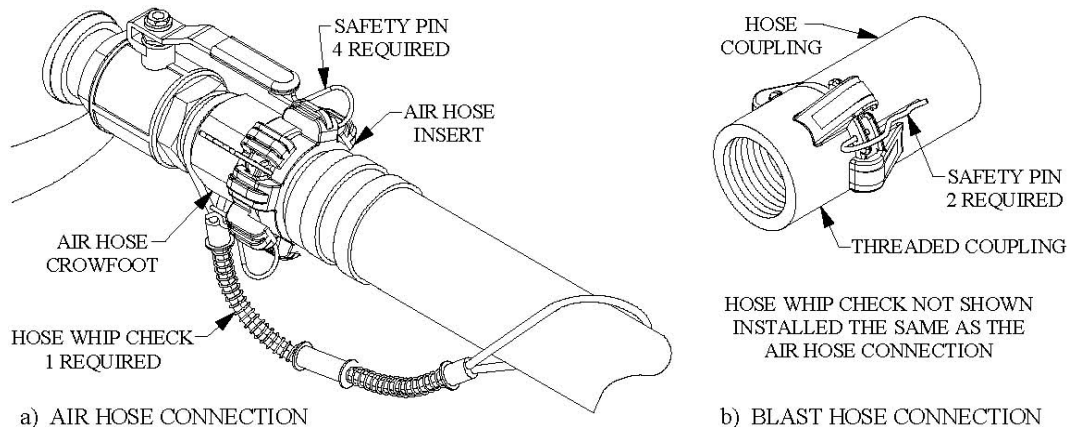

Figure 8.2 – Hose Connection Disconnect Protection
- 8.7. **Blast and Air Hoses:** All air hose, blast hose, and threaded couplings have pin holes that align when connected. To prevent accidental hose disconnections safety pins must be installed through these holes. Each hose connection must also include a hose whip check that will hold the hose if there is an accidental disconnection. Connect one loop to each side of the connection and stretch out as shown in Figure 8.2 below. Check hose connections daily and replace missing or damaged pins and whip checks.